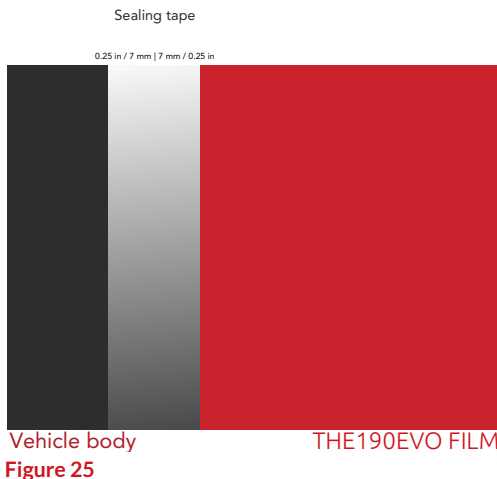

Figure 25
- › Apply the strip by overlapping it by approximately 7 mm (¼ in.) over the body work and 7 mm (¼ in.) over THE190EVO film. (FIG. 25)